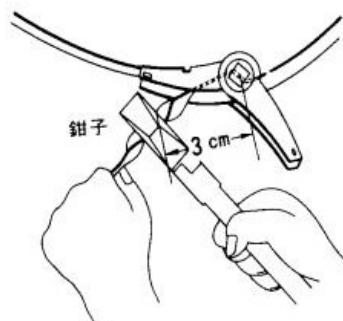

Figure. 5-3
Fix the rack from Step1 and Step2 on the pole by two stainless bands, component (5), respectively on the op and the bottom following the instruction in Figure 5-3.